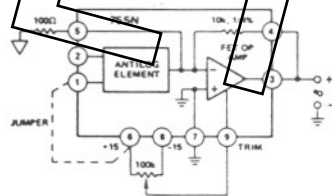

Figure 5. Trimming  $E_{OS}$  in Antilog Mode
**Offset Voltage ( $E_{OS}$ ) Adjustment** — Although offset voltage of the antilog circuit may be balanced by connecting it in the log mode, and using the technique described previously, it may be more advantageous to use the circuit of Figure 5. In this configuration, offset voltage is equal to  $e_{out}/100$ . Adjust for the desired null, using the 100k trim pot. After adjusting, turn power off, remove the external 100 $\Omega$  resistor, and the jumper from pin 1 to +15V. For 755P, use the same procedure but connect pin 1 to -15V.